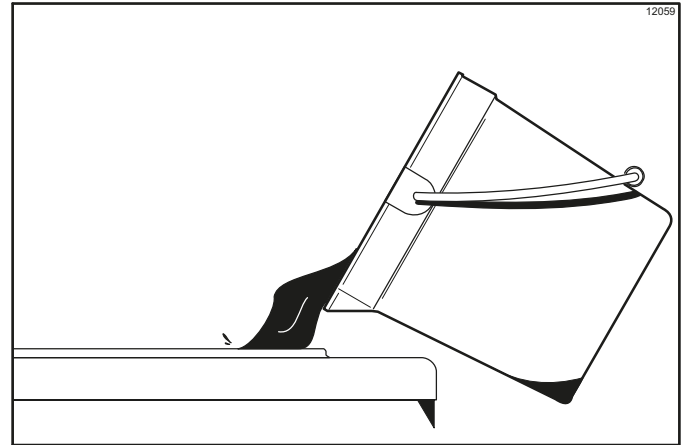

Figure 6-36
1. Pour 2 gal. (7.6 L) of cool, clean water into the mix hopper. With the white hopper brush, scrub the mix hopper and the mix-level sensing probe. Using the double-ended brush, brush-clean the mix inlet hole. (See Figure 6-36.)